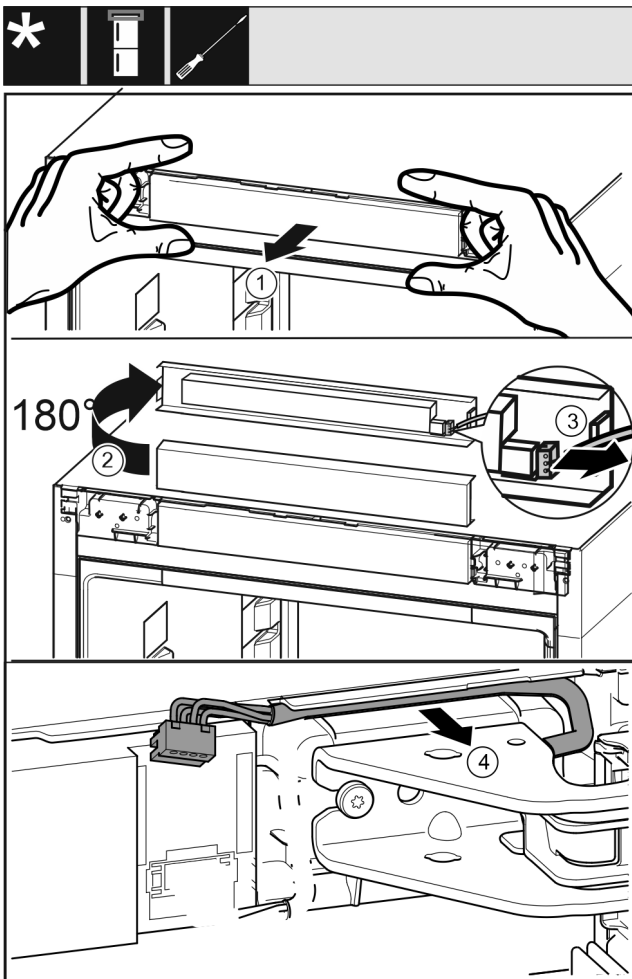

Fig. 20
- ▶ Carefully release the control panel trim Fig. 20 (1) forwards.
- ▶ Turn the control panel trim Fig. 20 (2) upwards by 180°.
- ▶ Push the locking tab Fig. 20 (3) backwards and remove the plug carefully.
- ▶ Release the cable over the swap bearing block Fig. 20 (4) from the guide carefully.